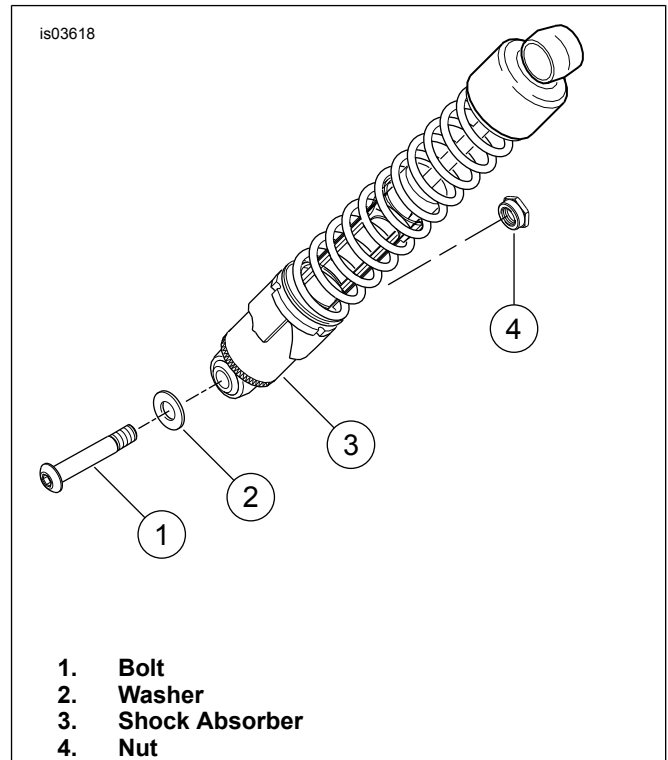
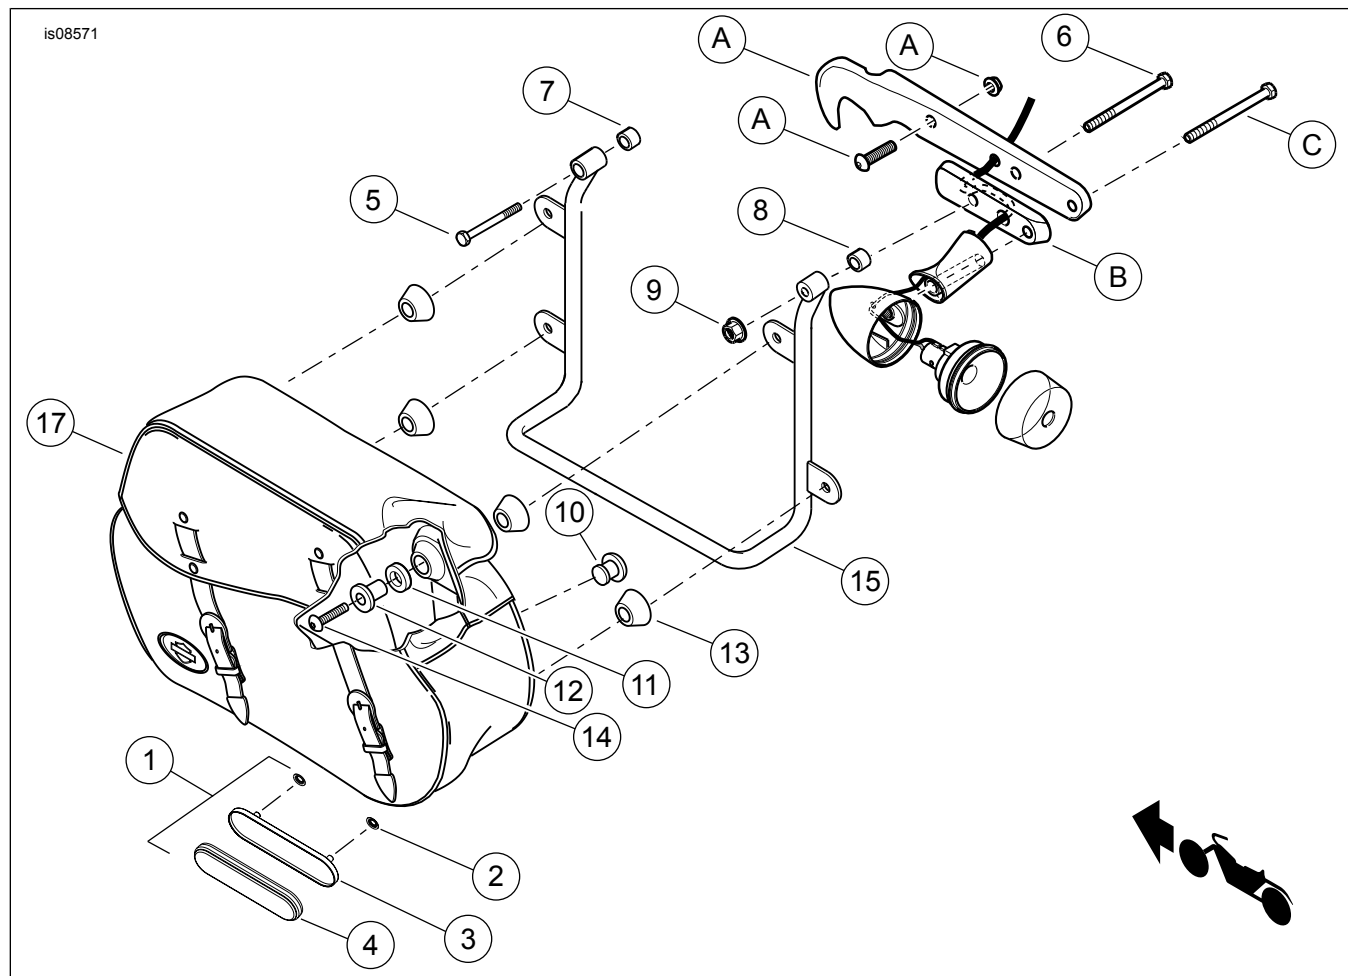

Figure 1. Rear Shock Absorber - Right Side Shown
Figure 3. Service Parts: Leather Saddlebag Kit
See Figure 3 and Table 1.
3. See Figure 1. Disconnect the rear shock absorbers from the swing arm by removing bolt (1), washer (2) and nut (4) from the shock absorber (3). Repeat steps for the opposite side.
1. See Figure 3. Remove the rear shock absorber bolt (Figure 1, Item 1). Position the 0.531 x 0.75 x 0.75 in spacer (7) and the front saddlebag bracket attachment hole over the rear shock absorber bolt location. Secure with the 1/2-13 x 4.00 in screw (5).
2. See Figure 3. Position the 0.385 x 0.75 x 0.75 in spacer (8) and the rear saddlebag attachment hole over the second hole on the rear of the fender, fender support cover and relocation pad. From the underside of the fender, insert a 5/16-18 x 3.75 in screw (6). Secure with locknut (9). Tighten locknut (9) to 32.5–36.6 N·m (24–27 ft-lbs).
3. Tighten the front screw (5) to 28.5–36.6 N·m (21–27 ft-lbs).
4. See Figure 3. Assemble an isolator washer (11) onto an isolator bushing (12). Place a screw (14) through the bushing.
6. See Figure 3. Push a saddlebag isolator (13) over bushing with cone shape toward saddlebag.
7. Place saddlebag in position on bracket. Insert the new screw (14) into the bracket. Do not tighten.
11. See Figure 1. Attach rear shock absorber to swingarm by installing bolt (1), washer (2) and nut (4). Tighten bolt to 61.1–67.9 N·m (45–50 ft-lbs). Repeat steps for opposite side.
1. See Figure 3. Measure approximately 1-1/2 in (38 mm) from the bottom edge of the saddlebag. Align the reflector horizontally. Carefully center the reflector mount between the straps or at the rearward portion of bags without straps. Mark hole location.
3. Install reflector mount (3) on saddlebag using two pushnuts (2).
4. Remove adhesive backing from reflector (4). Install on mount.